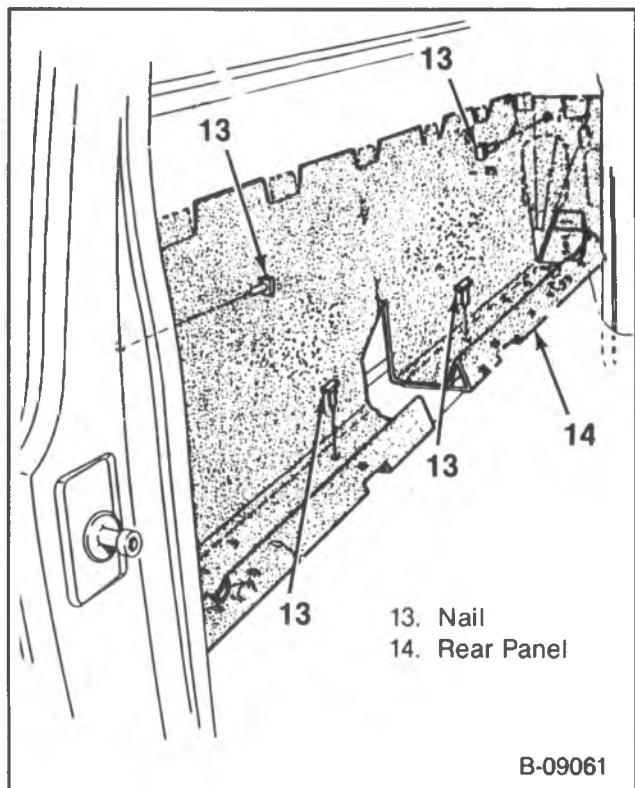

Figure 6 — Rear Panel
3. Front door scuff plate screws (26) and the scuff plates (27).
4. Rear door scuff plate screws (159) and scuff plates (160).
5. Rear panel nails (figure 6).
6. Rear panel (figure 6).
5. Rear panel (figure 6).
6. Rear panel nails (figure 6).
7. Front door scuff plates (27) and scuff plate screws (26).
8. Rear door scuff plate (160) and screws (159).